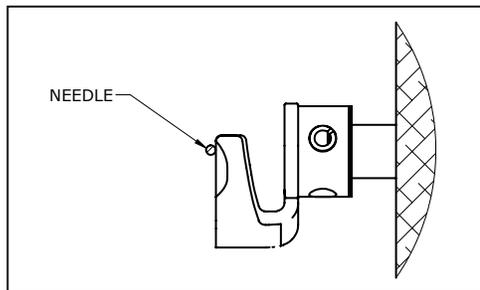
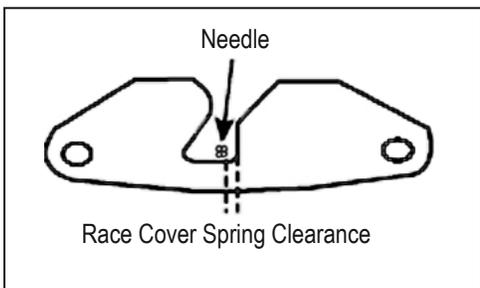

FIG. 42
FIG. 44
5. Tilt machine at an angle so that the shuttle area is visible. Turn the handwheel counterclockwise until the driver passes behind the needle at bottom dead center of stroke. The driver should just touch, but not deflect the needle (Figure 42). This setting should be made in the Zigzag position and the needle checked so it does not deflect on either the inside or outside stitch. The needle should also be centered in the race cover spring notch (Figure 44).
7. Check needle-to-hook clearance. If driver is positioned properly, hook will pass right behind needle (Figure 42).